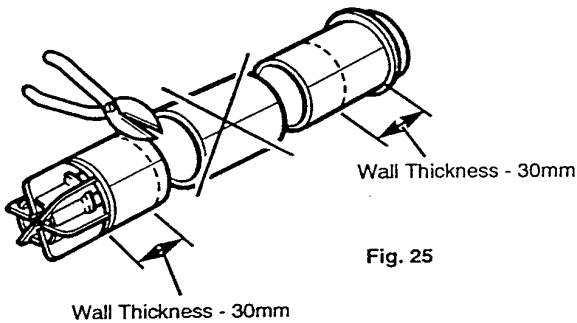

Fig. 25
4. **Wall Thickness 100mm - 280mm (4in - 11in)** if the wall thickness is less than 280mm (11 in), it will be necessary to cut the components of the air duct to the appropriate size. Dispose of the centre section, as this is not required (Fig. 25).
5. Measure the wall thickness and subtract 30mm ( $1\frac{3}{16}$  in) from this dimension. Cut the remaining sections to this length, measuring from the positions indicated in the diagram (Fig. 25).